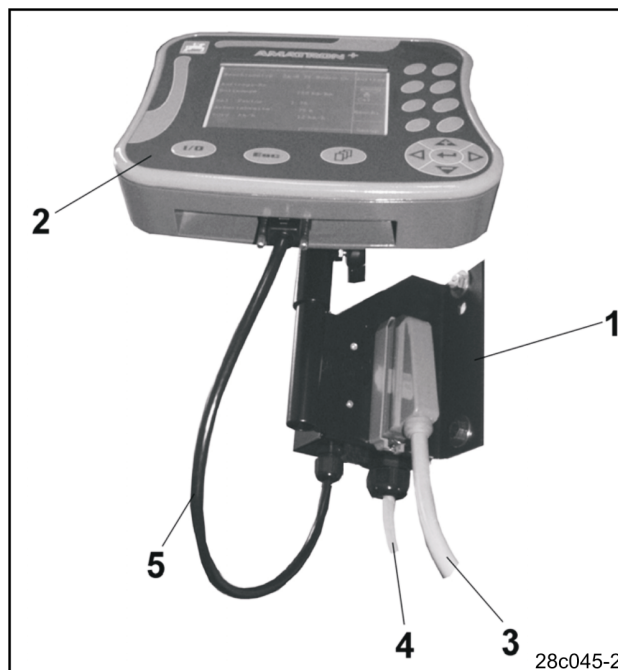
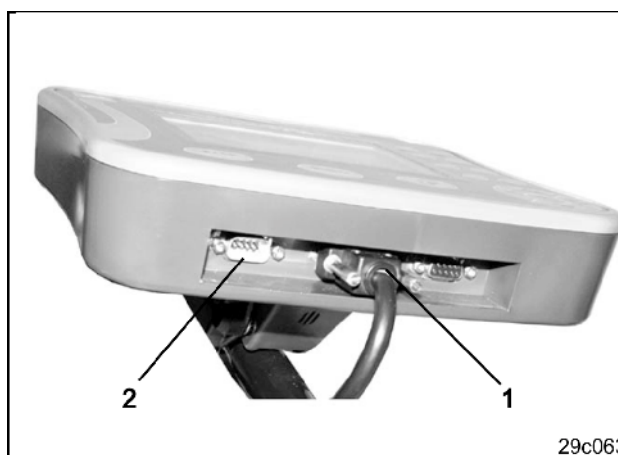

Fig. 3
Fig. 4
The terminal (Fig. 3/2) is designed for use in conjunction with all AMAZONE machines via the **AMATRON+** job computer.
Connect the terminal (Fig. 3/2) to the console (Fig. 3/1) as follows:
- connect the seed drill to the base tractor equipment via the machine plug (Fig. 3/3)
- Connect the battery cable (Fig. 3/4) with the tractor battery. For advice regarding power supply, please refer to para. 3.3.
- Connect the intermediate cable (Fig. 3/5) with the terminal (Fig. 3/2).
- Insert the plug of the intermediate cable (Fig. 3/6) into the central 9-pin Sub-D socket (Fig. 4/1).
- The serial interface socket (Fig. 4/2 ) allows an additional connection to a GPS-Terminal.